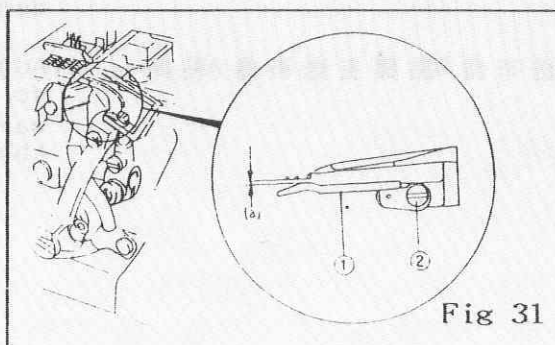

Fig 31
1. When the looper goes from the right exact point to the left exact point, it passes behind the needles and the front needle guard (1) is in front of the needles, the clearance (a) is 0.2 - 0.3mm. (Fig 31)
2. 調整時：鬆開螺絲 (2) 並前後移動針護片 (1)